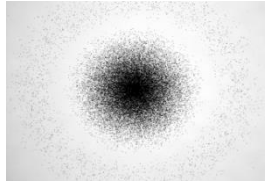

Figure 1. Microscope image (above) and AFM profile (below) of a micro dot patterned mask for JWST NIRCam coronagraph
- Micro dot patterned mask for JWST (Fig 1)